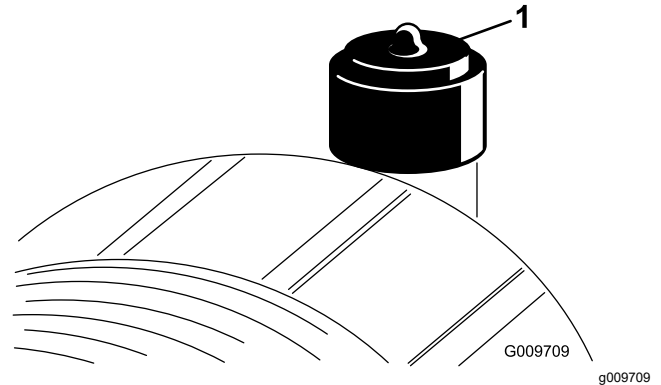

Figure 86
Service the air-cleaner filter only when the service indicator (Figure 86) requires it. Changing the air filter before it is necessary only increases the chance of dirt entering the engine when the filter is removed.
9. Reset the indicator (Figure 86) if it shows red.